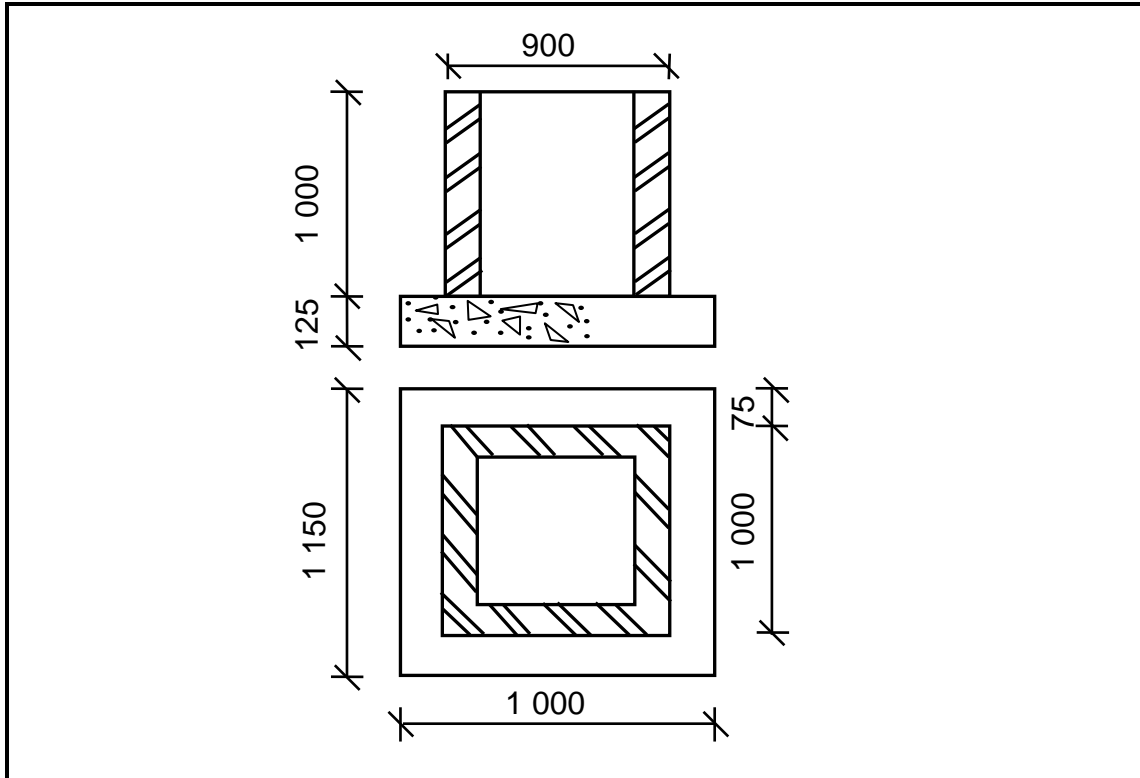

FIGURE 3.6
3.6 FIGURE 3.6 below shows an incomplete sectional view through the bricks and concrete floor slab of a manhole.